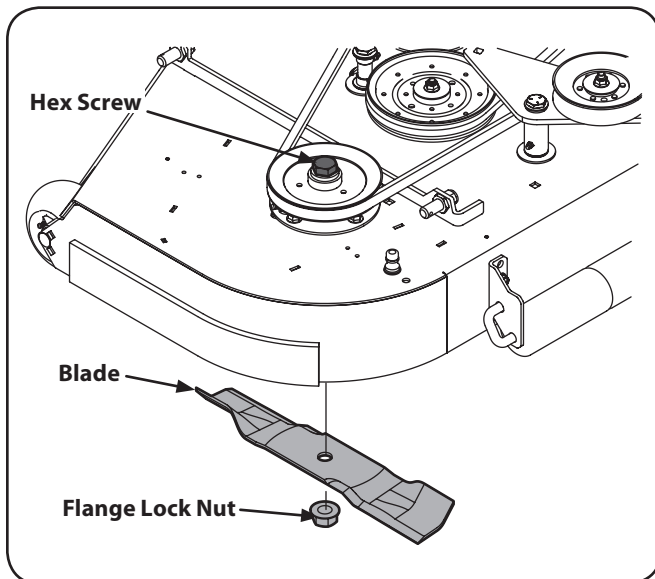

Figure 7-9
4. Use a 1-1/8" socket wrench on the pulley side of the spindle bolt. See Fig. 7-9.